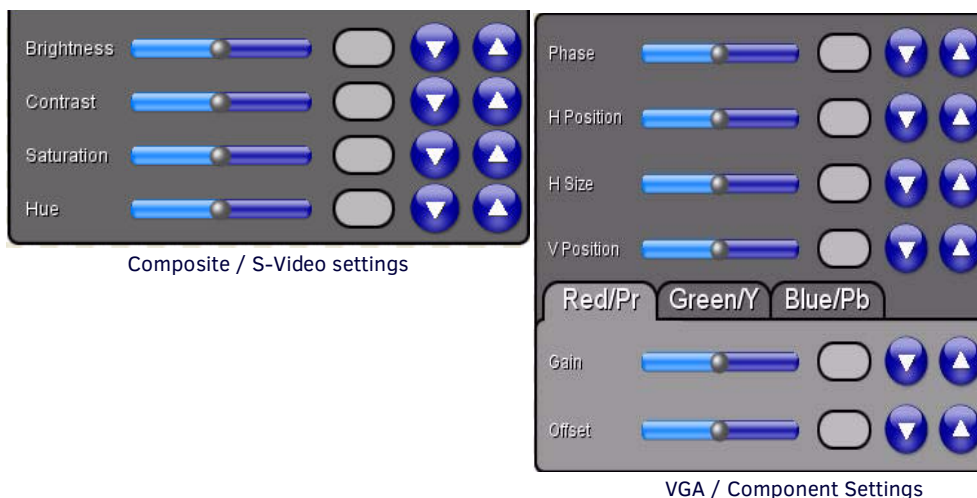

FIG. 64 Video Settings page - Video Settings
3. Depending on the Input Type assigned to the selected Input, some or all of the video settings below are provided (FIG. 64):